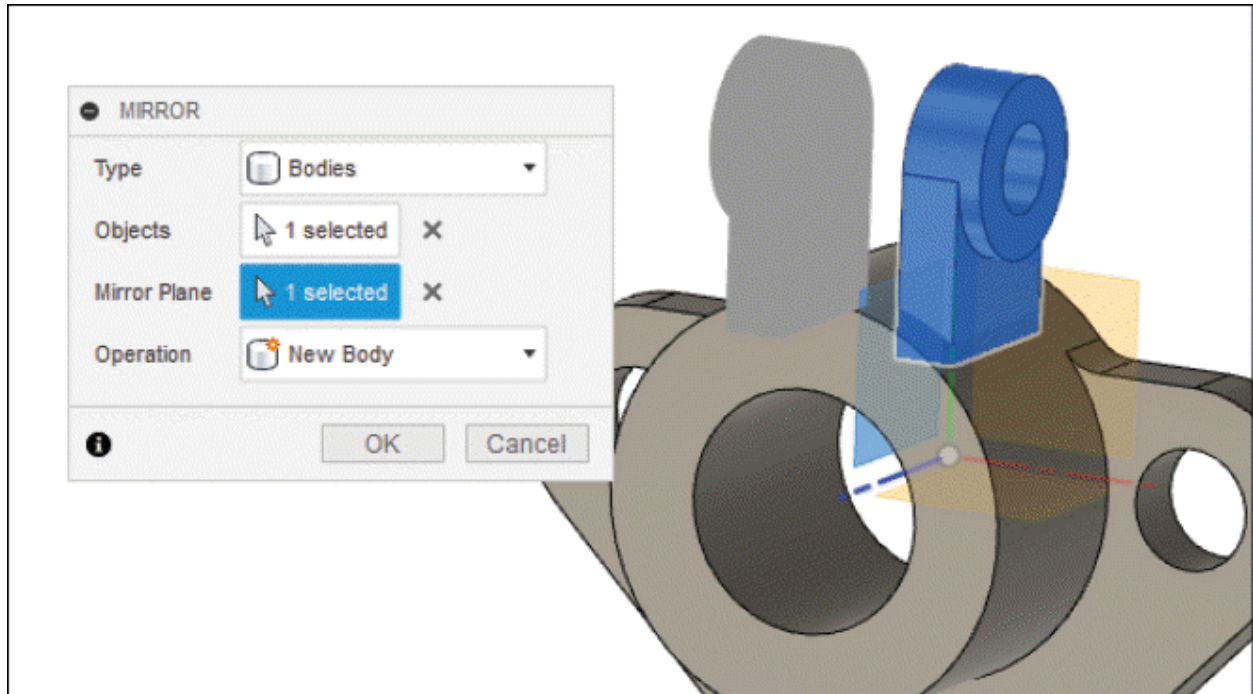

Figure-59. Preview of mirror
- Click on the **Select** button of **Mirror Plane** section and select **YZ** plane as mirror plane. The preview of mirror will be displayed; refer to Figure-59.